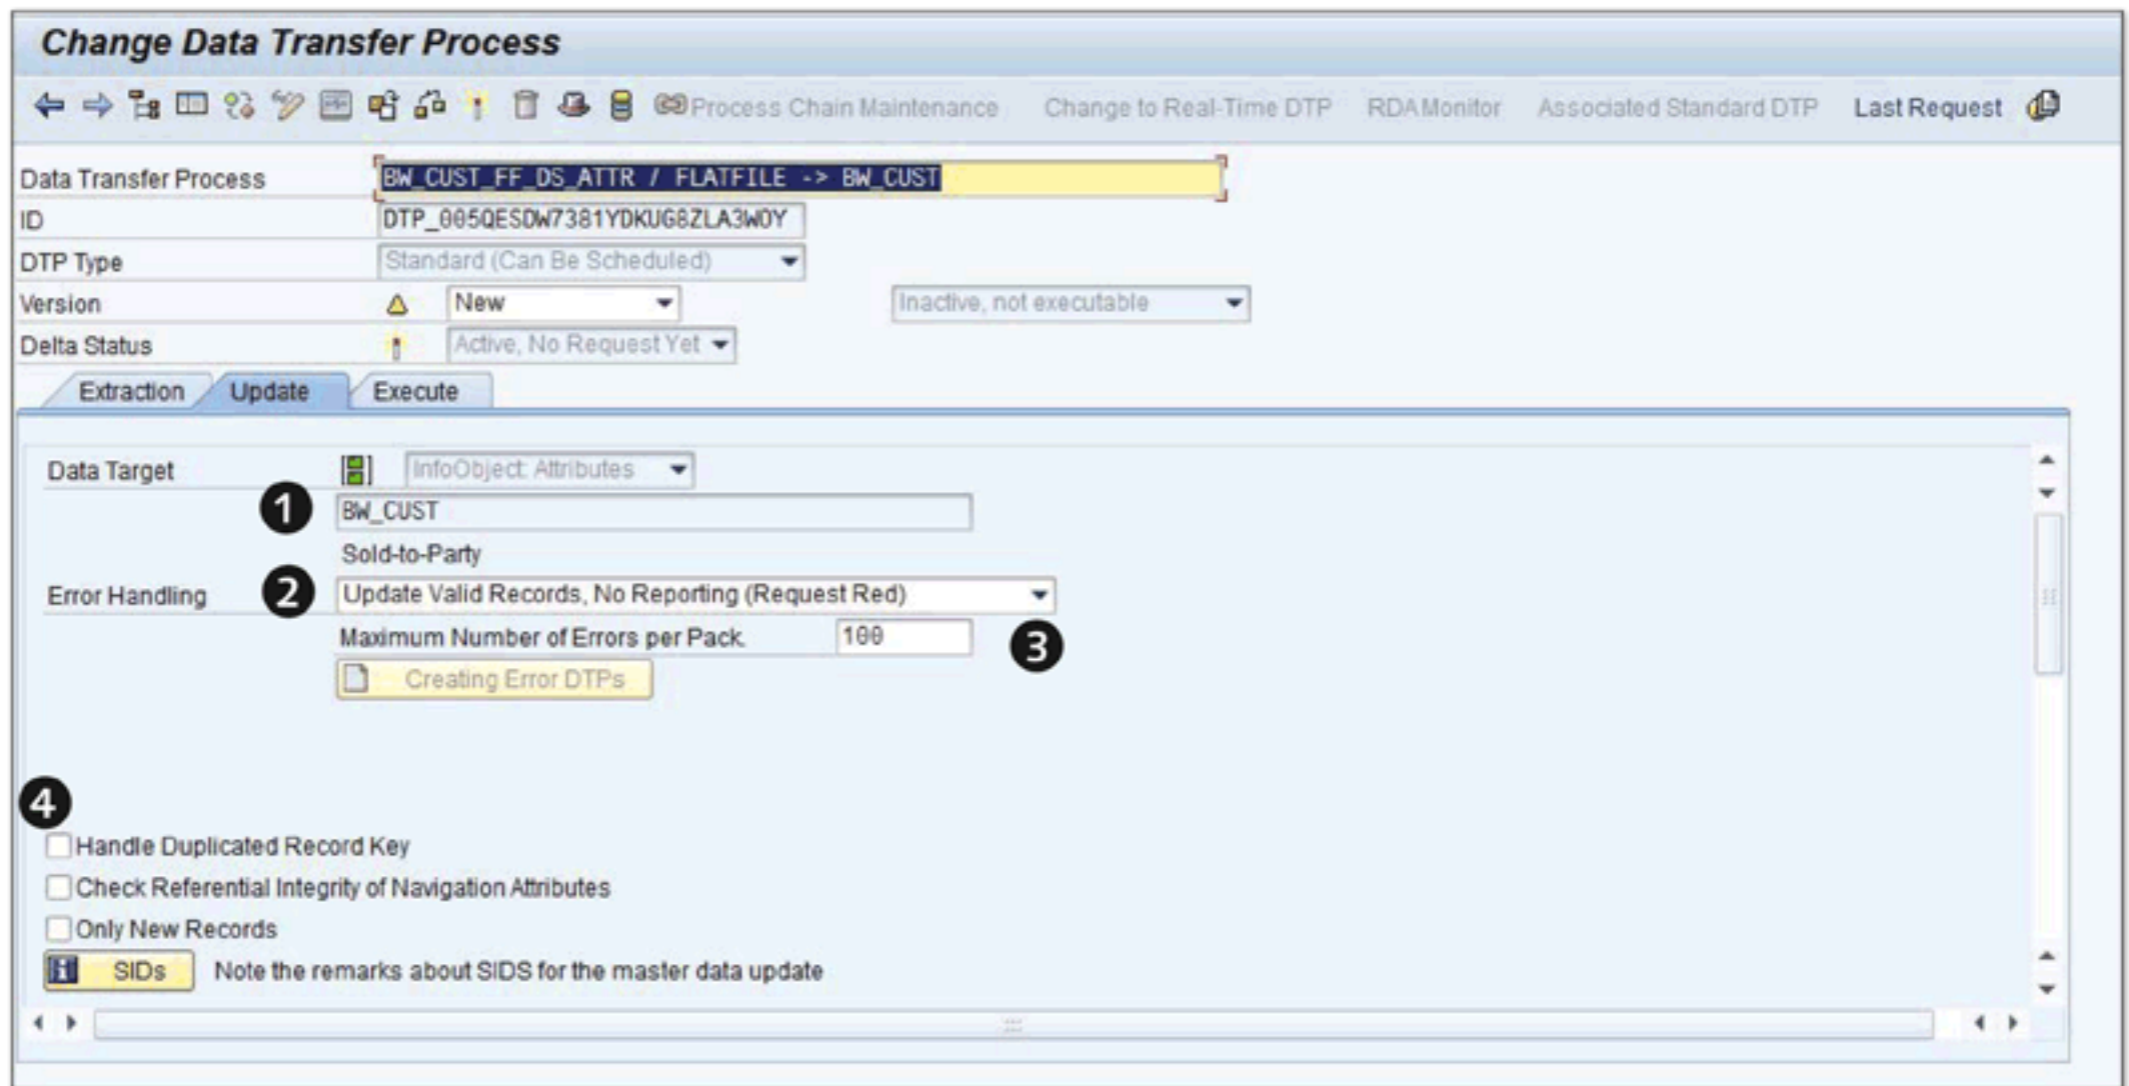

Figure 7.27 Change Data Transfer: Update Tab
Now click on the **UPDATE** tab, where the **BW_CUST** data target is shown in 1 of Figure 7.27.
DTP offers various options for error handling, as shown in ❷ of Figure 7.27 and described here:
The number of erroneous records that can be tolerated is entered in the `MAXIMUM NUMBER OF ERRORS PER PACK` field, as shown in ❸ of Figure 7.27. The system terminates the DTP if the number of erroneous records exceeds the number entered here.
Another important setting on the `UPDATE` tab is the `HANDLE DUPLICATE RECORD KEYS` checkbox (❹ of Figure 7.27). When set, this indicates that duplicate records should be handled in the order in which they occur in the data package. Finally, the last two settings are `CHECK REFERENTIAL INTEGRITY OF NAVIGATIONAL ATTRIBUTE` and `ONLY NEW RECORDS`. While the former allows you to check the referential integrity of navigational attributes, the latter allows you to only load new records.